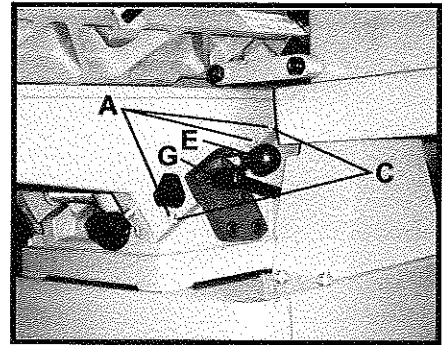
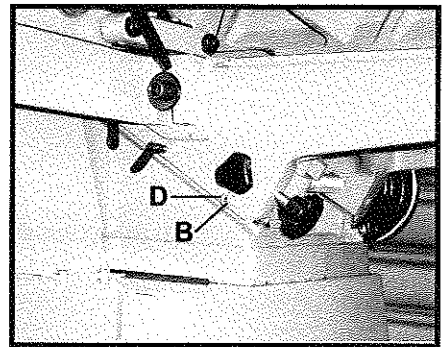

Fig. 7
Fig. 8
1. Loosen the three Infeed table lock nuts (A) (Fig.7) and the two Outfeed table lock nuts (B) (Fig.8).
2. Adjust the three gib adjusting screw (C) on the Infeed table (Fig.7) and the two gib adjusting screws (D) on the Outfeed table (Fig.8) until smooth Infeed table traverse is found.
3. Loosen the Infeed table position fix the lever, before turning the handle. Tighten the Infeed table position lock fix lever (G) after the Infeed table is adjusted (Fig.7)
5. When adjusting the Infeed table vertically, the table will lock at the 1/8" positive stop. Pull out the index stop knob (E) to continue moving the table (Fig.7)